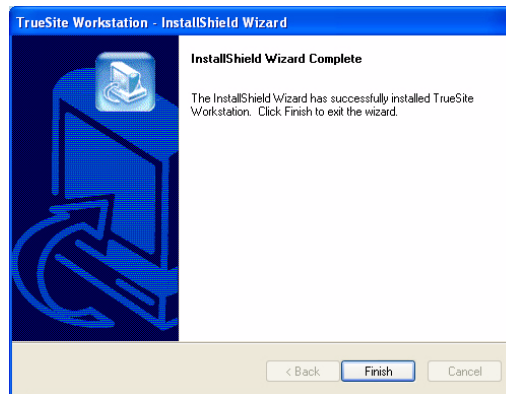

Figure 3-3 InstallShield Wizard Complete Dialog
- h. TrueSite installation is complete, the InstallShield Wizard Complete dialog appears as shown in Figure 3-3. Click **Finish**.